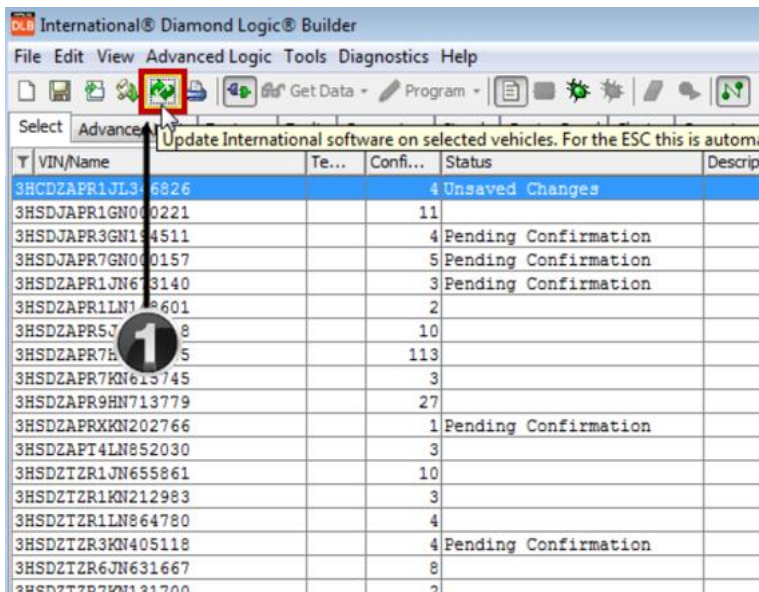

Figure 4: Update software
13. Click on the Update software button (figure 4, item 1).